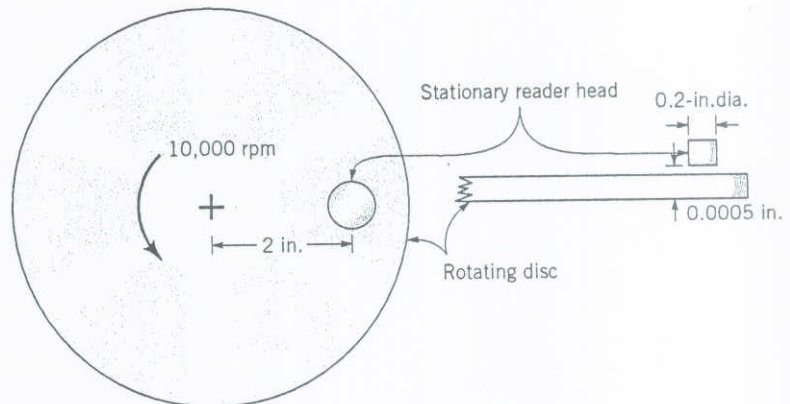

FIGURE P1.67
1.67 A new computer drive is proposed to have a disc, as shown in Fig. P1.67. The disc is to rotate at 10,000 rpm, and the reader head is to be positioned 0.0005 in. above the surface of the disc. Estimate the shearing force on the reader head as result of the air between the disc and the head.